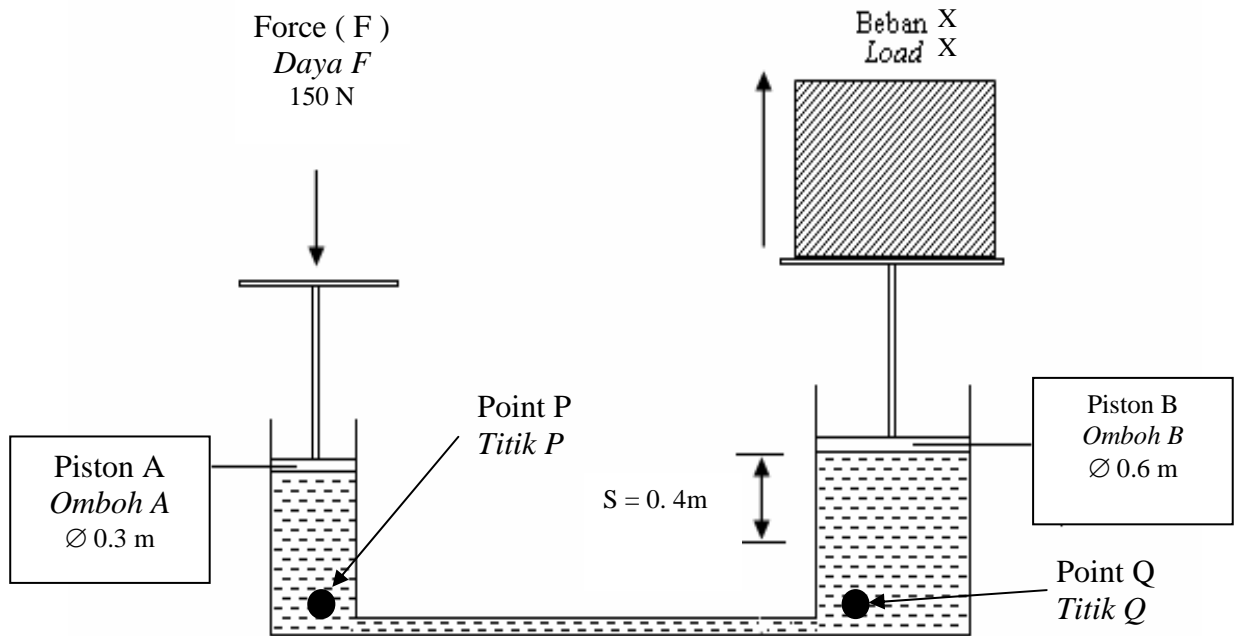

Figure 3
3. Figure 3 shows a simple hydraulic system to lift up load when the force F is acted to piston A.
- d) Based on Figure 3, determine if point P and point Q has the same value and state the reason.